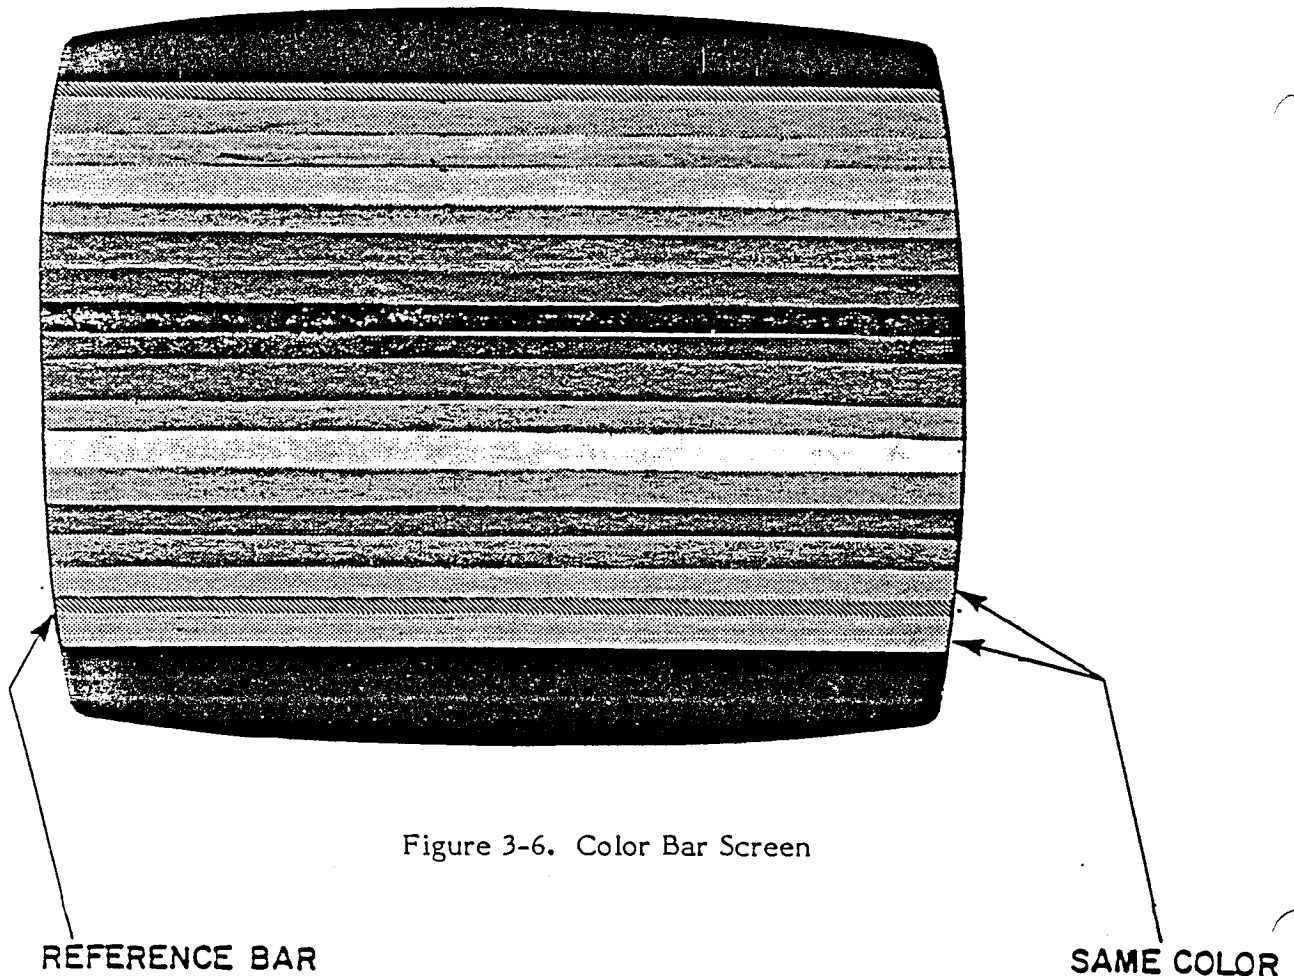

Figure 3-6. Color Bar Screen
- Format: A screen of 15 horizontal color bars is displayed (See Figure 3-6). The screen should be steady and unchanging. A gray or blue horizontal reference line extends across the screen about four bars from the bottom. This reference line is thinner than the bars around it. R70 should be adjusted to the bars immediately above and below the reference line to within one shade of each other. (The bars should be goldenrod in color.) Proper operation of the unit is indicated by being able to make this adjustment and by consistent color within the entire span of each bar on the screen. Minor glitches on the edges of the color bar are acceptable. Leave this test on for at least 60 seconds in order to catch any intermittent problems, such as a bar momentarily changing colors or blanking out.
Figure 3-6 is a black and white representation of a color television screen.